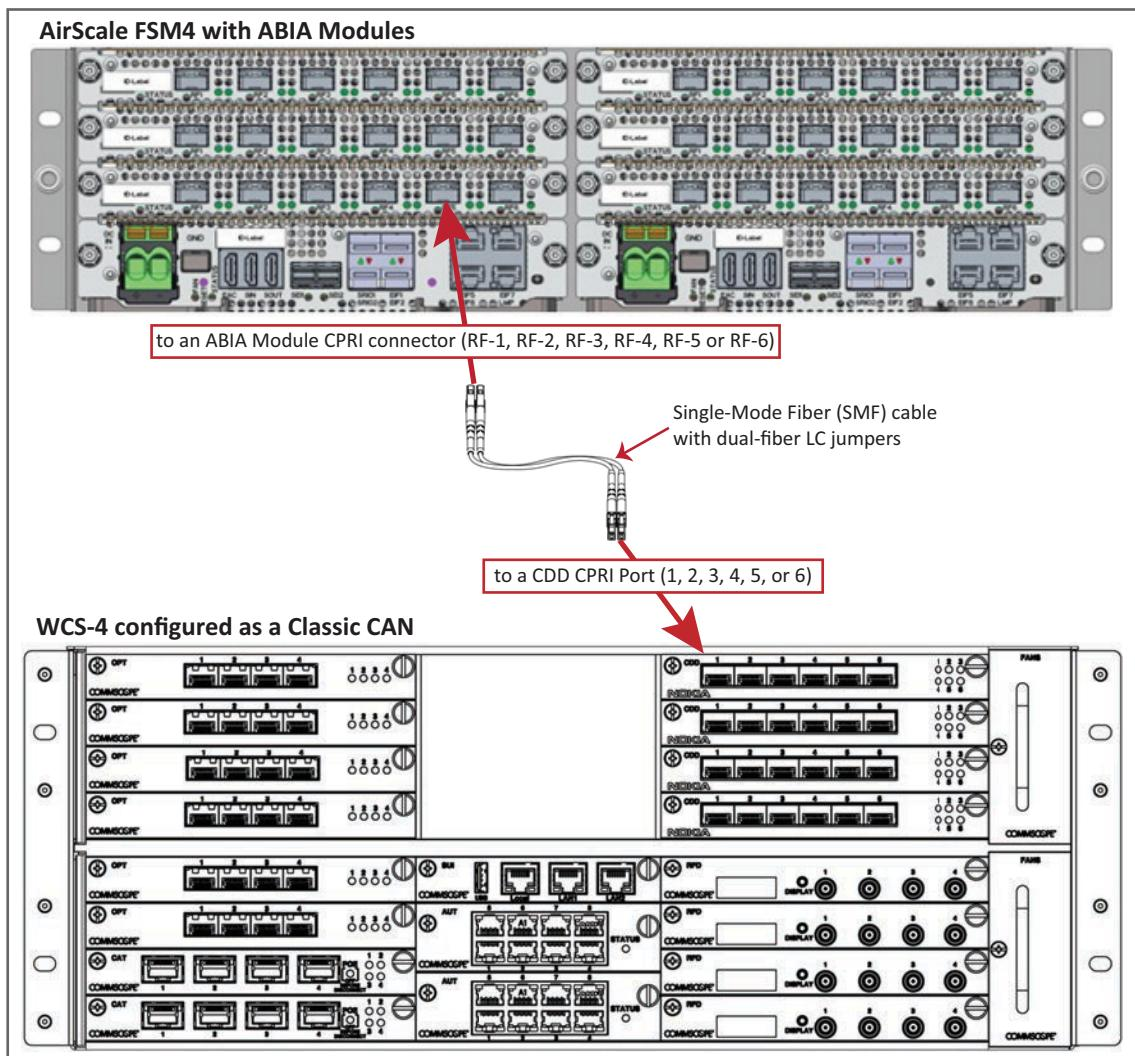

Figure 14. CDD Card in a Classic CAN Connecting to a BBU
- For Classic CAN installations, see Figure 14 on page 75